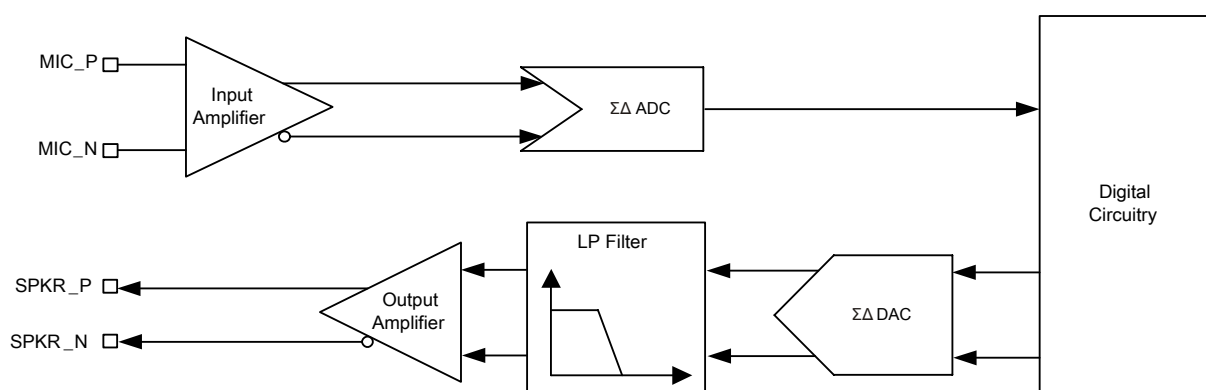

Figure 9.1: BlueVox2 QFN Codec Diagram
- A second-order sigma-delta converter, as shown in Figure 9.1.
- A second-order Sigma Delta converter, as shown in Figure 9.1.